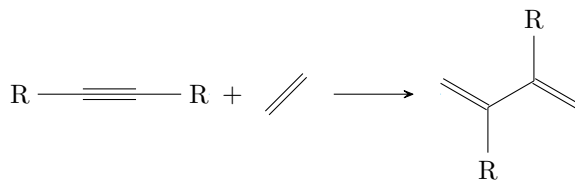

Figure 3.14: Olefin metathesis classes: Enyne metathesis.
- General form (related to Figure 3.14):